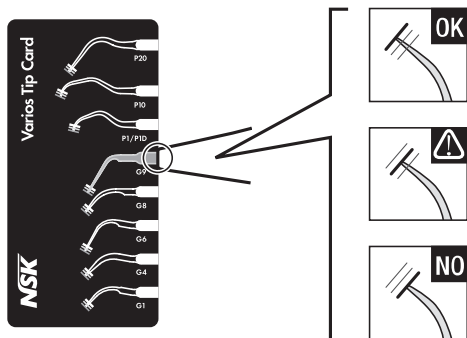

Fig. 14
- During cutting, Tip will gradually wear away. As the Tip wears, the stroke will get smaller and decrease cutting efficiency. When level drops too far, change the Tip. (Tip Card check) **(Fig. 14)**